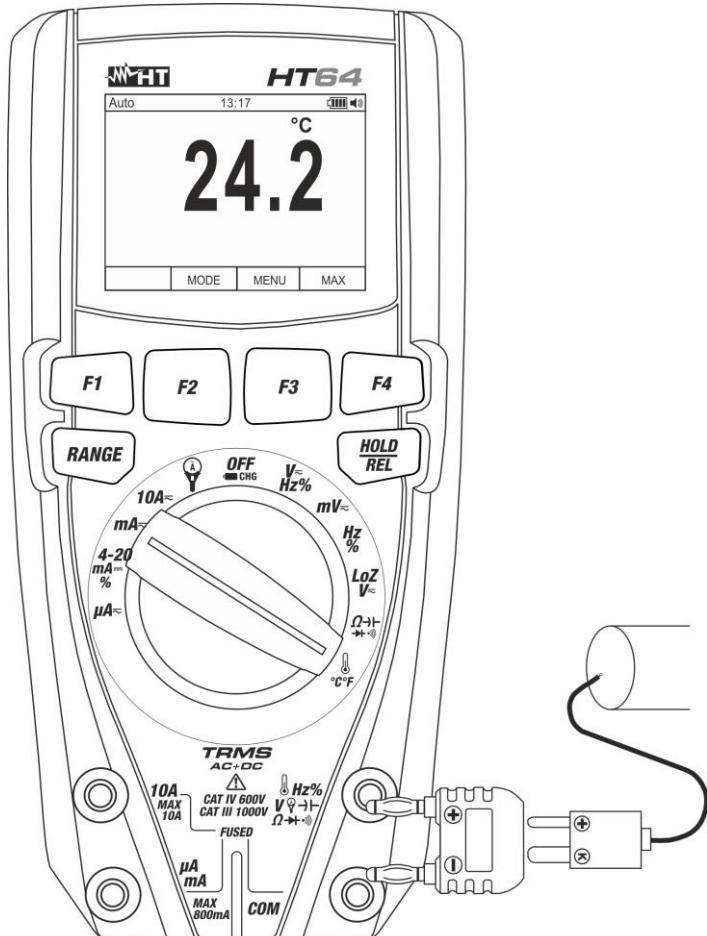

Fig. 29: Use of the instrument for Temperature measurement
3. Insert the provided adapter into input terminals $\text{Hz\% V}\rightarrow\text{I}\Omega\rightarrow\cdot\cdot\cdot$ (polarity +) and **COM** (polarity -) (see Fig. 29)